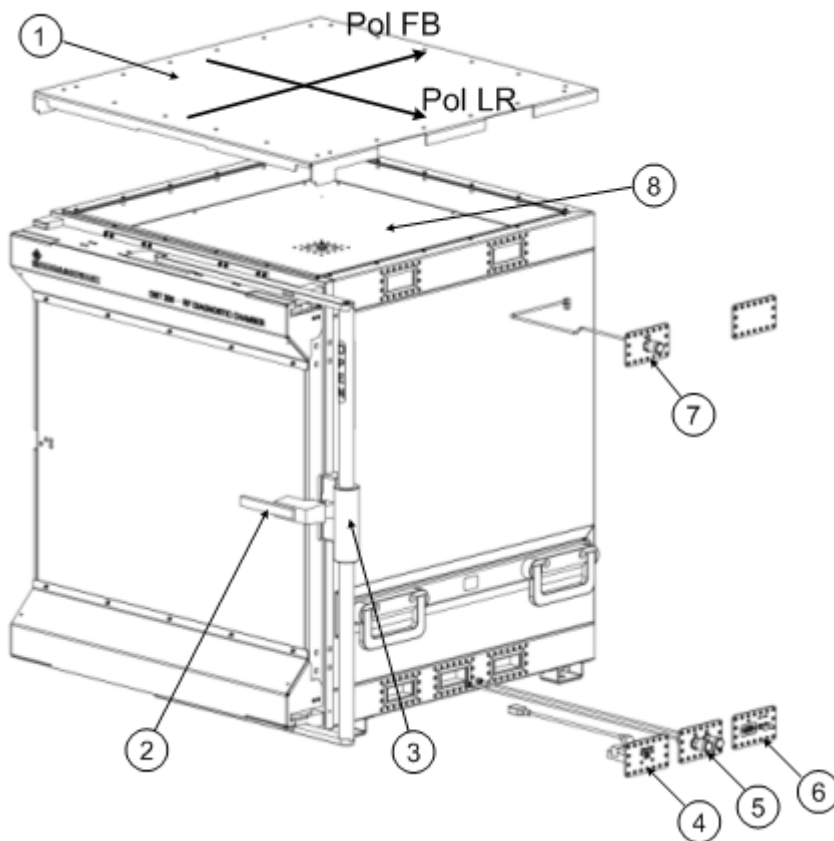

Fig. 3-1: RF Diagnostic Chamber with accessories
The panels are mounted at the positions shown in figure 3-1. For more information see chapter 3.2.5, "Mounting Filter and Interface Panels", on page 18.
2. Turn the locking handle to the OPEN position as shown in figure 3-1.